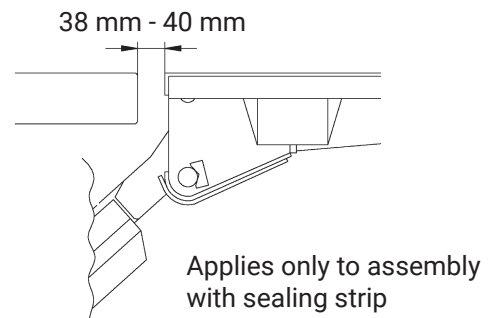
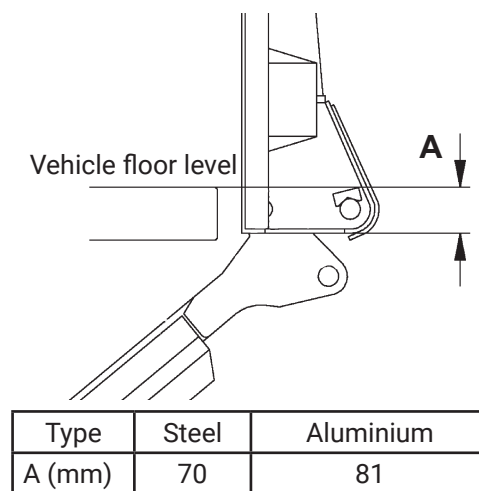

Figure 36. Check the position in relation to the rear beam of the vehicle
Figure 37. The platform underhang (A), varies according to platform type, and this should be taken into consideration when installing the upper edge seal.
5. Test the lift by carefully raising it to the vehicle floor level and tilting it to the vertical position. Check the position in relation to the rear beam and side posts of the vehicle. See Figure 36 and Figure 37.